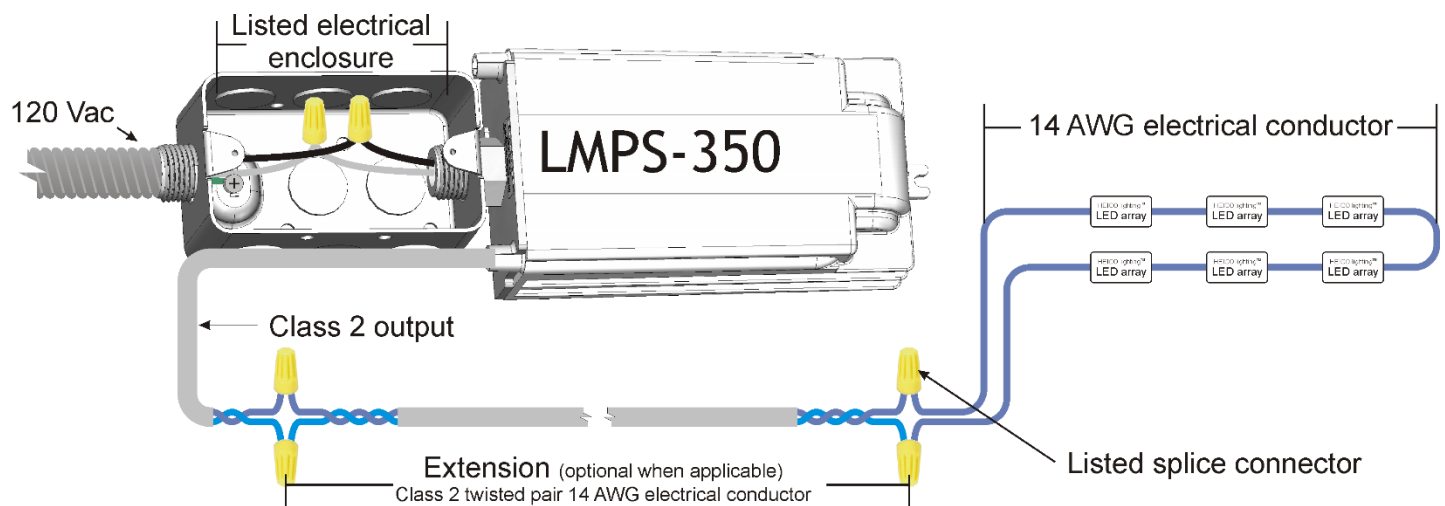

Figure 13: Typical installation
5. All sections on the same power supply shall be wired in series (figure 13).